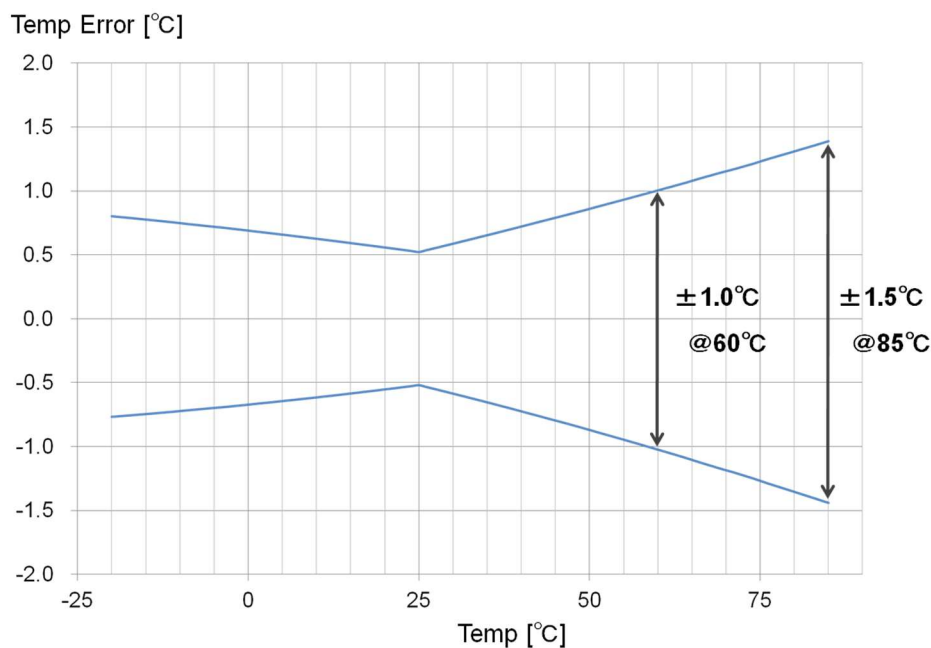

Figure 5. Estimated temperature error in Figure 3
As there is little difference, a chart of the lower and upper limits calculated as temperature when the central value is zero (0) is shown in Figure 5.